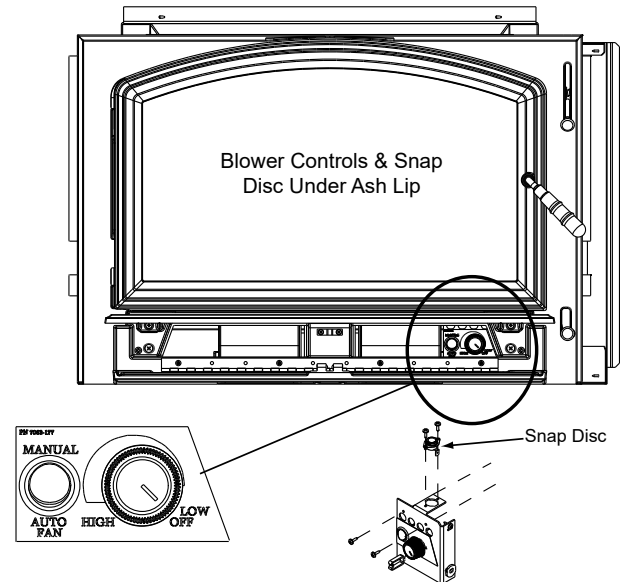

Figure 24.2 - Snap Disc Location
3. Locate the snap disc bracket assembly behind the blower controls on the right side under the ash lip (**Figure 24.2**).